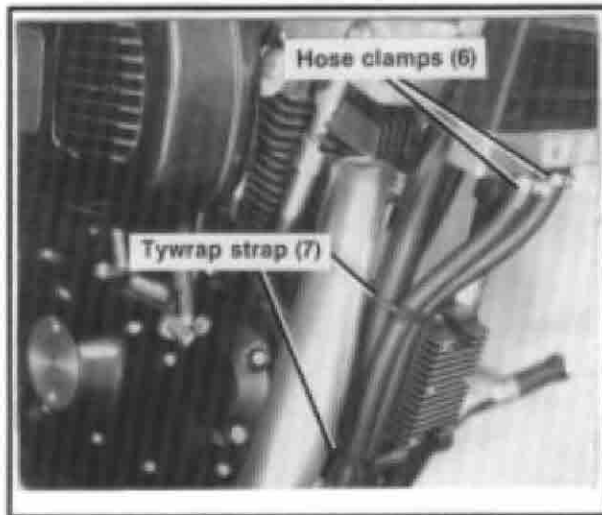

Figure 3. Strapping Hoses (XL)
- Cut the hose (5), included in the kit, into two equal parts. Fasten one end to the oil pump return fitting and secure it with a clamp (6).
- See Figure 3. Route the hose, that was attached in Step 4, up the right downtube to the left oil cooler fitting. Cut off excess hose and fasten with a clamp (6).